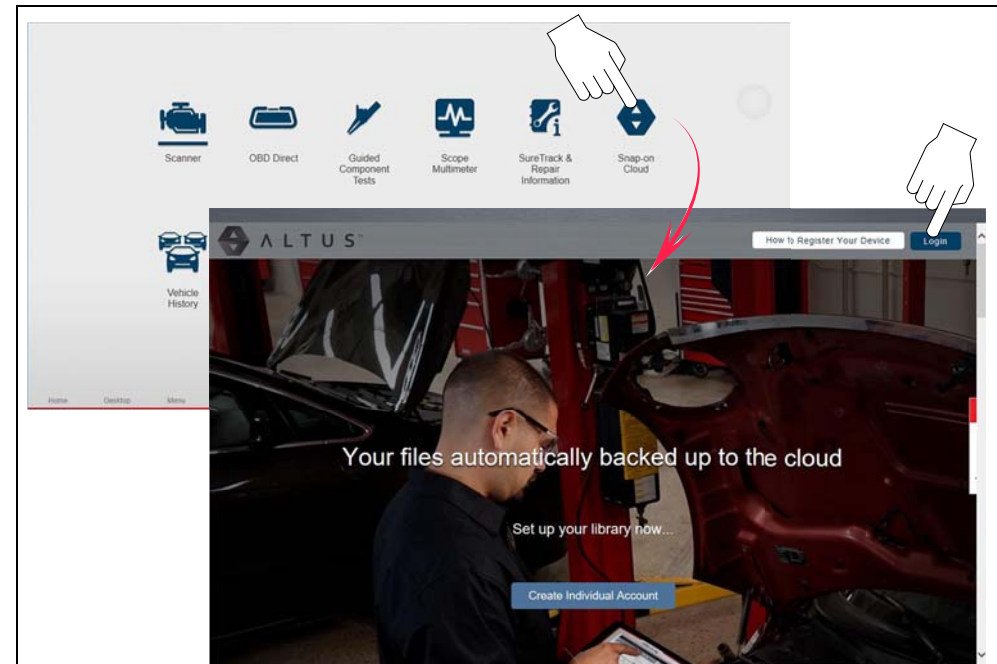

Figure 15-3
1. From the Home screen select the **Snap-on Cloud** icon (*Figure 15-3*). If using your mobile device or PC visit ALTUSDRIVE.com.
2. Select the **Login** icon (*Figure 15-3*).